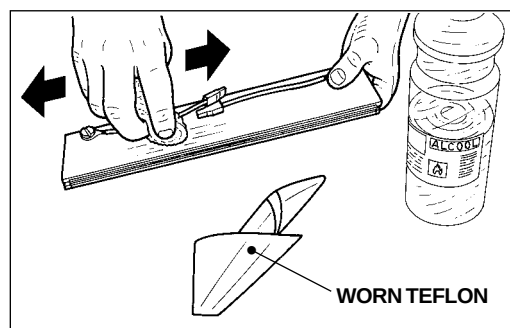

Fig. 3
- 4) Hold the sealbag and pull it upwards (B - Fig. 3).
- 3) Wipe the sealing bar with alcohol (Fig. 3).